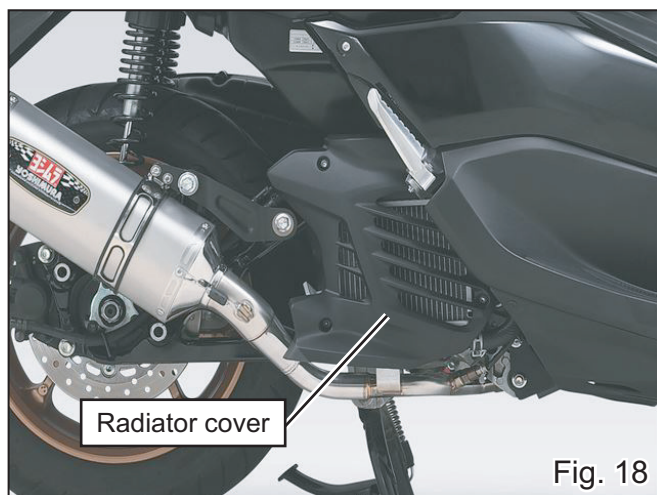

Fig. 18
- 16) Remount radiator cover which was removed at Step. 2. (See Fig.18)